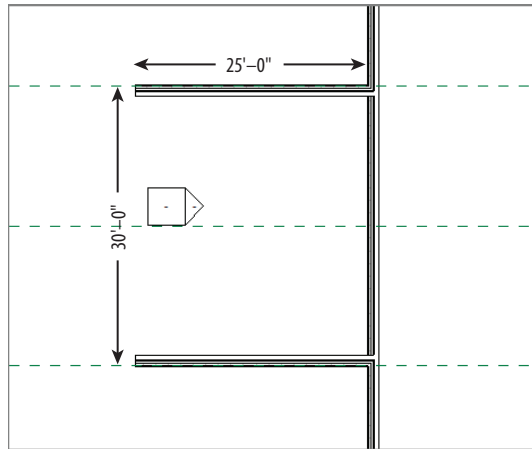

FIGURE 2.7: The two walls drawn here are 30' (9000mm) from finish face to finish face.
9. Do the same for the other side. Your plan should now look like Figure 2.7.